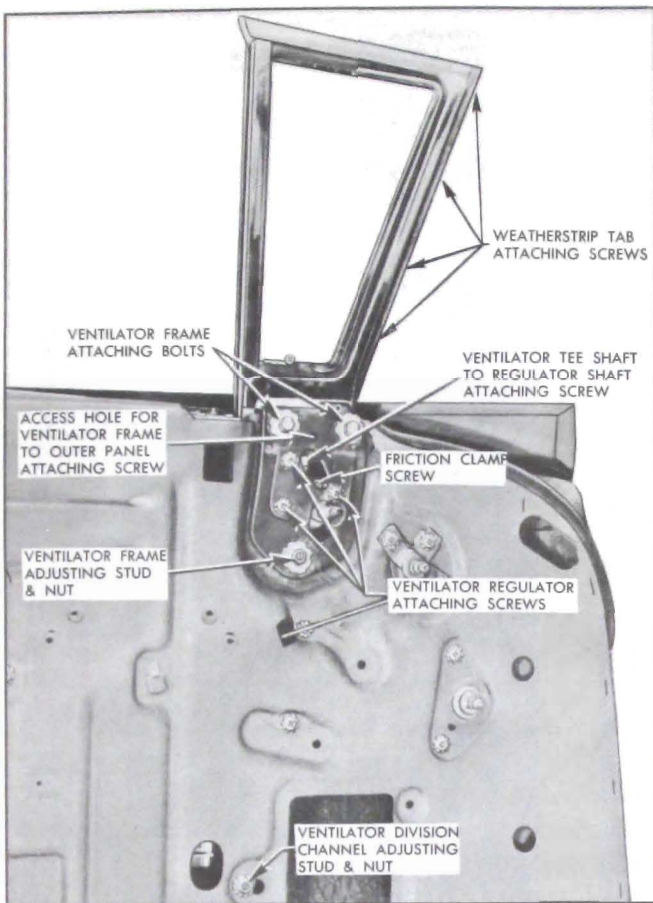

Figure 13-37—Front Door Ventilator
2. Remove weatherstrip tab attaching screws at front of ventilator frame, as indicated in Figure 13-37.
4. Remove ventilator frame to outer panel attaching screw through access hole, shown in Figure 13-37. Remove ventilator frame adjusting stud and nut and attaching bolts.
NOTE: Ventilator regulator may be removed from ventilator as a bench operation by loosening the ventilator tee shaft to regulator shaft attaching screw and removing the regulator attaching screws, Figure 13-37.